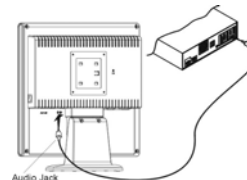

Figure 1-7
1. Connect the audio cable to the "LINE OUT" jack on your PC's audio card or to the front panel's "AUDIO OUT" jack of your CD ROM drive. (See Fig. 1-7)